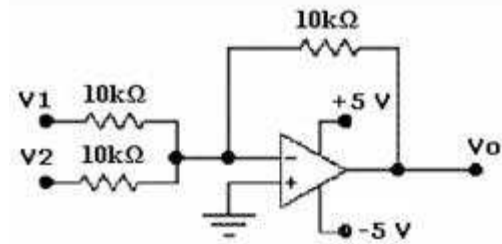

Figure 12
- 1- Construct the circuit shown in Figure 12.